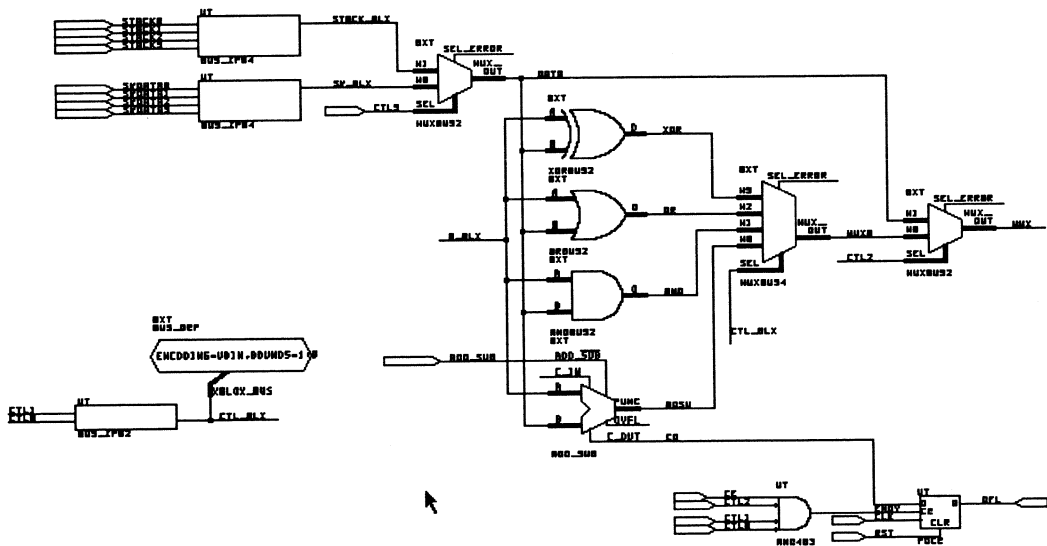
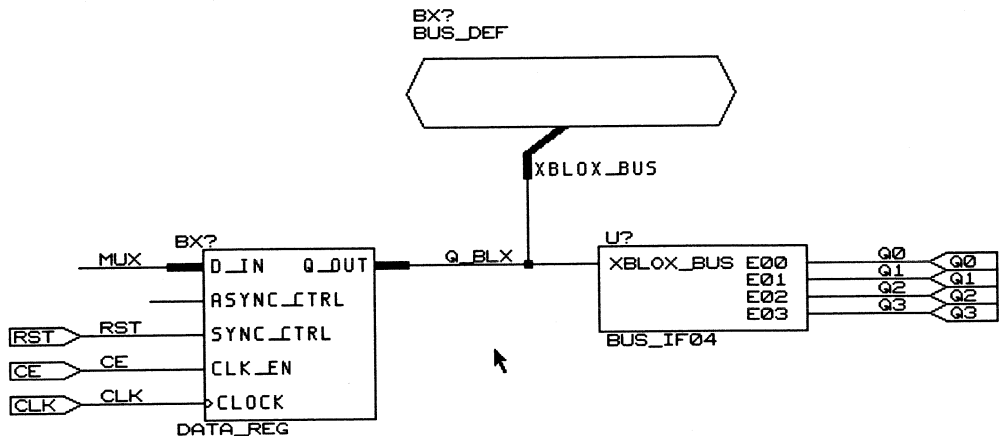

Figure 13-1 Incomplete ALU_BLOX Schematic
Figure 13-2 Adding X-BLOX Components and Buses
The schematic for ALU_BLOX appears, as shown in Figure 13-1.
Complete the ALU_BLOX schematic, using Figure 13-2 and the following steps as a guide.
3. Use the Place Wire command to add the MUX, RST, CE, and CLK nets, as shown in Figure 13-2. Be sure to label the nets as shown, using the Place Label command.
In Figure 13-1 and Figure 13-2, the rectangular BUS_IF02 and BUS_IF04 boxes connecting OrCAD nets to X-BLOX buses are bus interfaces. They interface X-BLOX buses with OrCAD nets.